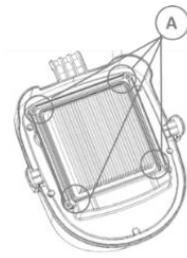

Figure 8
- d. See Figure 8. Remove the 4 screws fixing the filter frame to the head